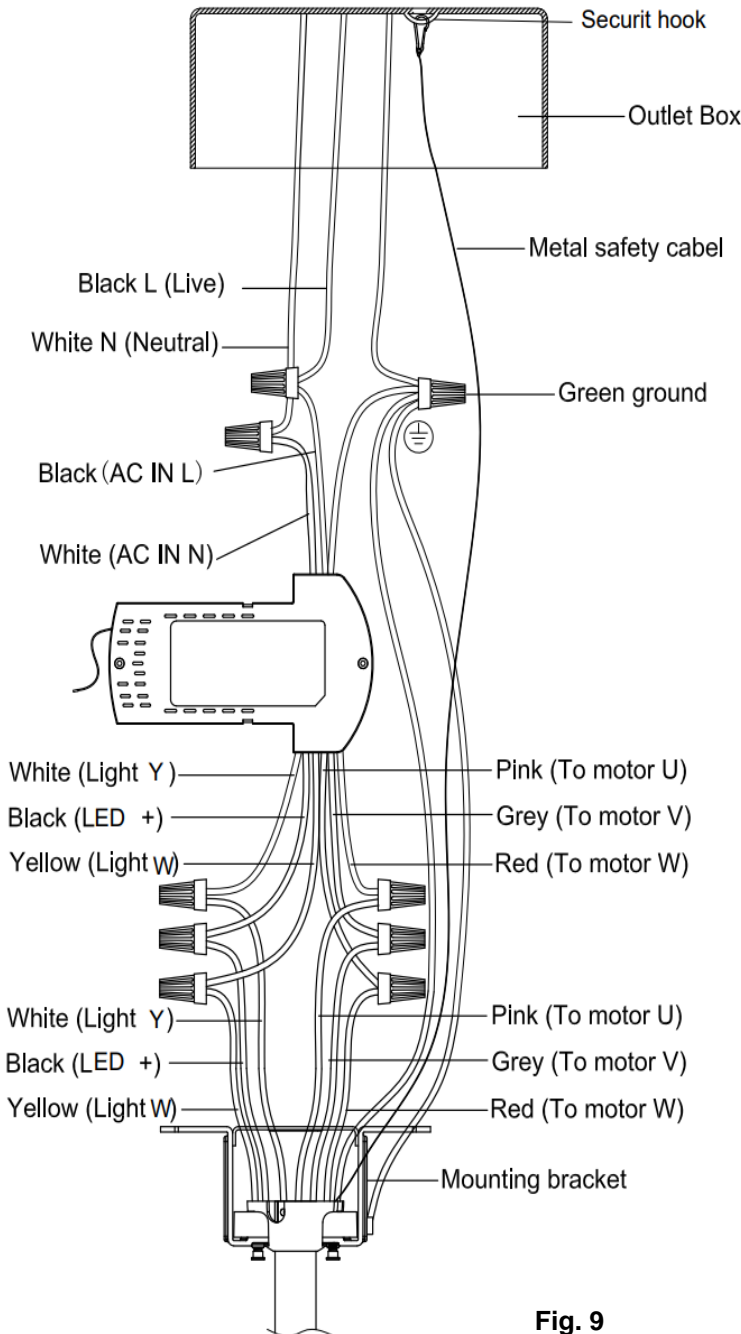

Fig. 9
- Complete the electrical wiring according to the ‘ELECTRICAL WIRING DIAGRAM’ section below. (Fig.9)
1. Connect the household live supply wire (black) to receiver input wire (black, AC IN L) as shown in (Fig. 9)